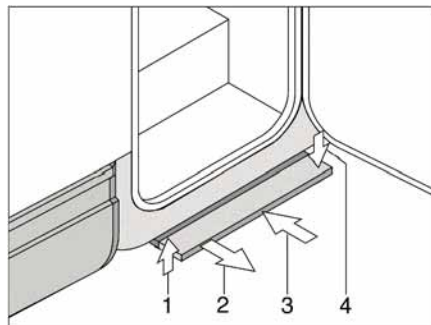

Fig. 5 Mechanically operated entrance step
Pulling out: ■ Pull the entrance step forwards (Fig. 5,2) until it latches into place.
Pushing in: ■ Slightly lift the entrance step (Fig. 5,1).
■ Push the entrance step as far as it will go under the base of the vehicle (Fig. 5,3). Ensure that the entrance step latches in place (Fig. 5,4).